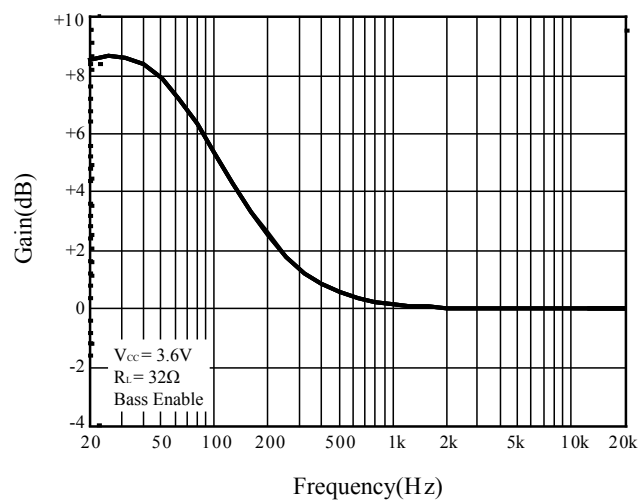

Figure 8 Gain vs. Frequency (Bass Enable Mode)
When the bass enhancement is enabled, the low frequency input signal will be amplified (Figure 8). The cutoff frequency is f_B . The signal below f_B will be enhanced. f_B is given by Equation (3):